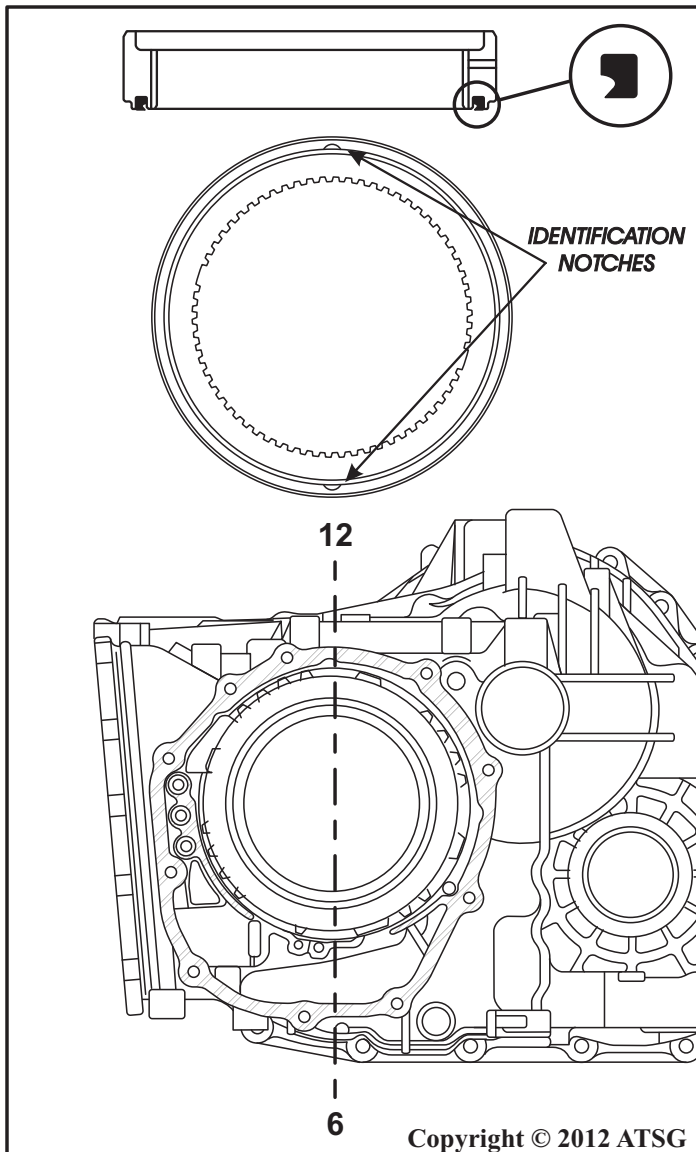

Figure 238
5. Install a new "Lip" type seal into the groove on back side of the sprag inner race, as shown in Figure 238 and 240, with the lip facing down, and retain with small amount of Trans-Jel®.
7. Check the placement of the I.D. notches in the sprag inner race, as shown in Figure 238. The sprag inner race **must** be installed with the I.D. notches along the 6 and 12-O-Clock line, as shown in Figure 238.